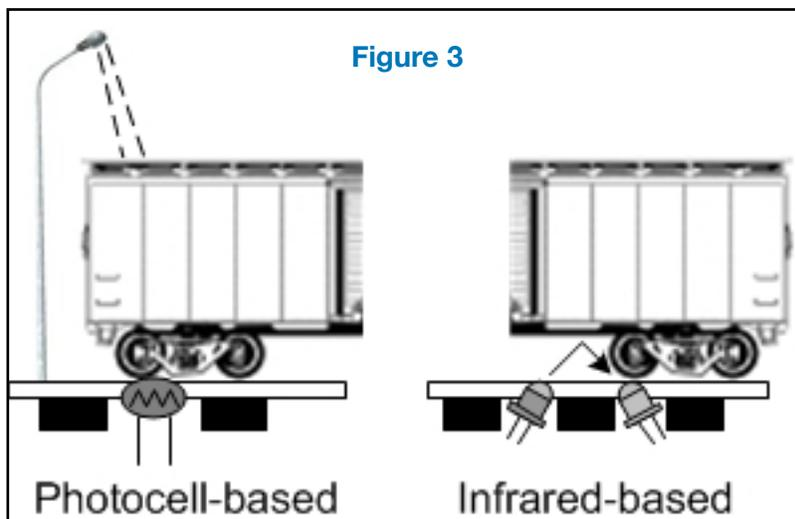

Figure 2
**Figure 2 (previous page)** shows the paper template for a code 70 LH turnout. This was prepared in Templot2® and shows where the work on the rails needs to be done. This is quite a long turnout, as it uses a scale 30' long heel (30' from the hinge to the switchblade tip) and comes in at nearly 18" long. It has 21" tie spacing and 9" wide ties, and is scaled to NMRA HO gauge, suitable for fine-scale or regular rolling stock. All of these dimensions are adjustable in the software. I built the turnout using 100% copper-clad ties, as I intend to join the turnout to a Shinohara 3-way turnout. The procedure followed in building the turnout is as follows.